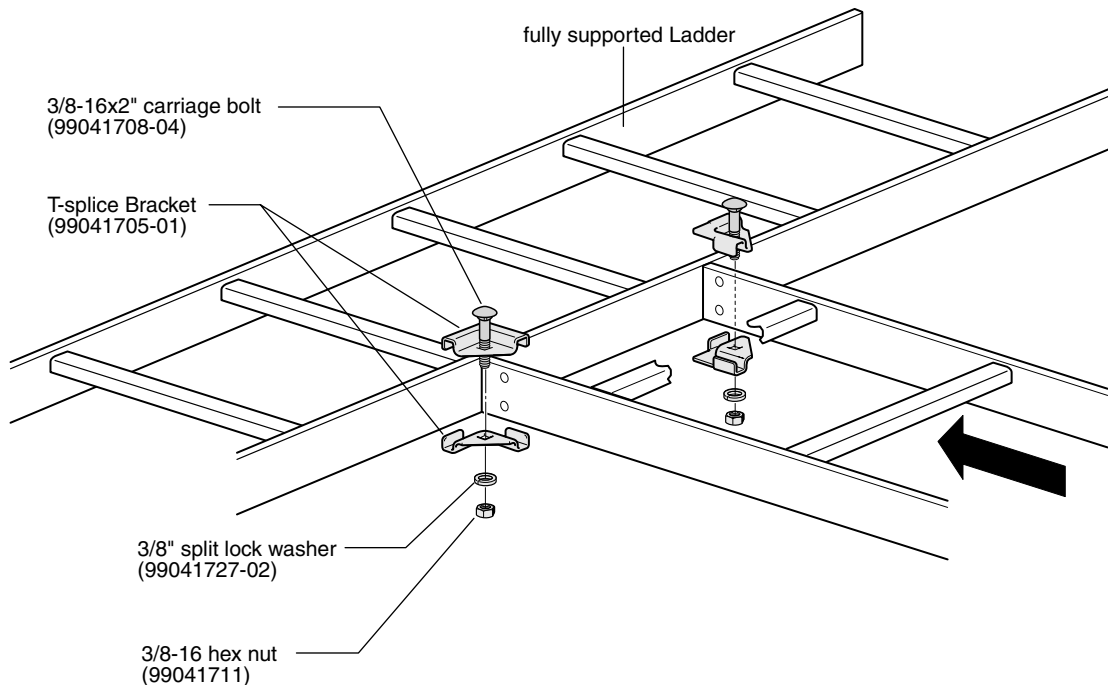

Figure 1
1. Butt the end of the Cable Runway Ladder to be supported by the splice kit up against the fully supported Cable Runway Ladder at a ninety degree angle. (Figure 1)
2. Place a T-splice bracket over the top and bottom of the ladder rails at the joint. Insert a 3/8-16x2" carriage bolt through the square holes in both brackets and fasten with a 3/8" split lock washer and 3/8-16 hex nut. Tighten completely. (Figure 1)